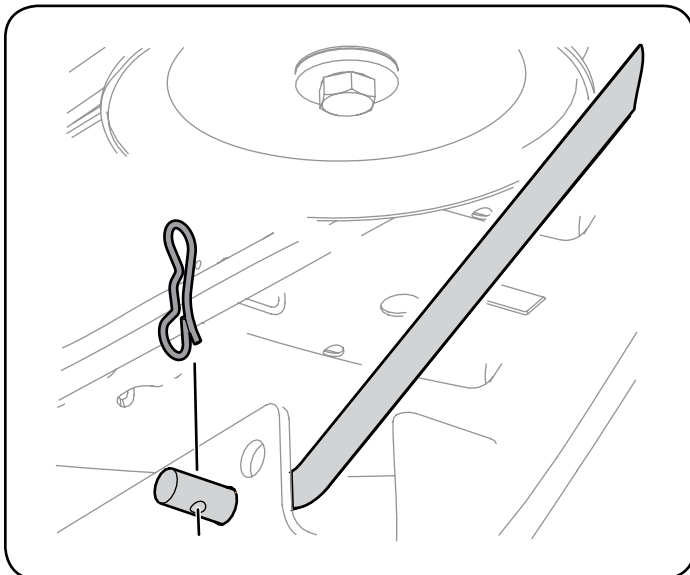

Figure 28
- Pull the bow-tie pin out of the front deck lift rod securing it to the deck. See Figure 28. Slide the deck lift rod out of the front hanger bracket.